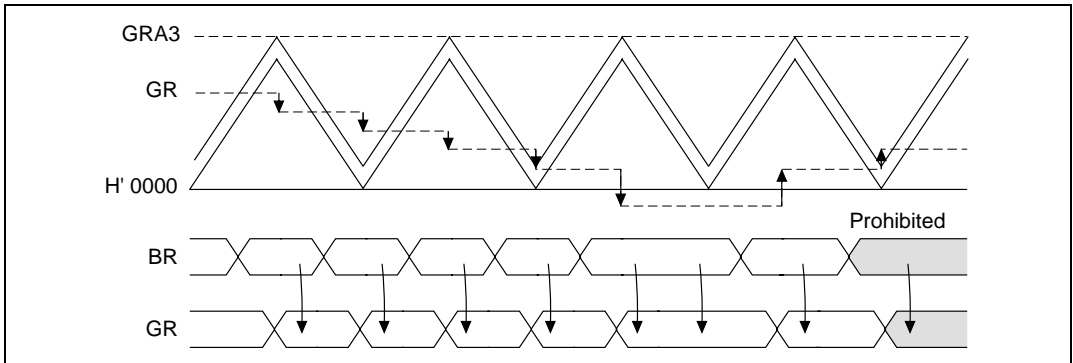

Figure 10.38 Example of Changing GR Settings with Buffer Operation (1)
- When changing settings: See figure 10.38.